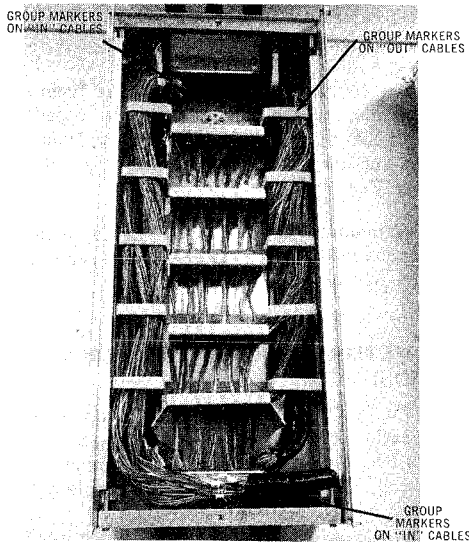

Fig. 3 - Installation of Unit Group Markers
5.04 Before removing the unit binder, wrap each binder group of the IN and OUT cable (or cables) with the cable unit marker using the number that corresponds with the group. (e.g., Blue, White — No. 1) unless a change is required to correspond to the Continuous PIC Sheath Count. Place the markers both near the sheath opening and at the clear and capped end of the IN cable. (See Fig. 3).
7.06 Feed each 25 pair binder group through the back row of holes in the wiring bracket in accordance with the colour code and pair count indicated on the front of the distributing bracket. Figures 3, 4 and 5 give a top view of the distributing brackets.